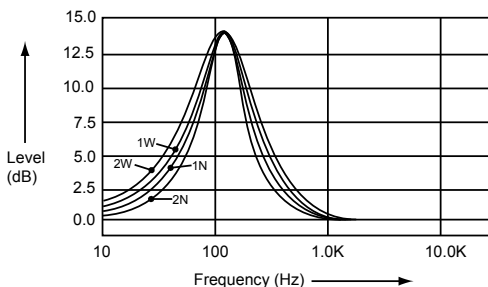

Figure 1
6. **Audio/Enter Button:** Press Audio/Enter to navigate through the stereo sound functions. Short press “AUDIO” button to access the audio menu. User can navigate thru the audio menu items by pressing the “AUDIO” button repeatedly, or by pressing the Tuning Up (21) or Tuning Down Button (22). Once the desired menu item appears on the display, adjust that option by using the Volume Up (7) or Down button (8) within 5 seconds. The unit will automatically exit the Audio Menu after five seconds of inactivity.
- **BASS-Q: (Bass Quality Factor)**: User has 5 seconds to use the Volume Up or Down button to adjust the desired Bass Quality Factor to 2N, 1N, 1W or 2W. See Figure 1.